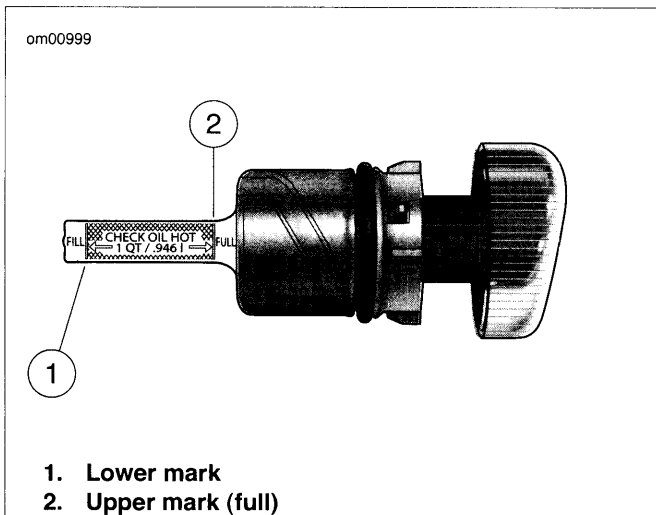

Figure 1-3. Filler Cap/Dipstick (typical)
3. Remove oil filler cap again and check oil level on dipstick. See Figure 1-3. Dipstick has two marks. If oil level is at or below lower mark (2), add only enough oil to bring the level to a point between the two arrows on the dipstick. Reinstall filler cap.
5. See Figure 1-3. Remove filler cap again and check warm oil level on dipstick. Dipstick has two marks. If oil level in tank is at or below lower mark, add 1.0 U.S. quart (0.946 liter) of Harley-Davidson oil to tank.